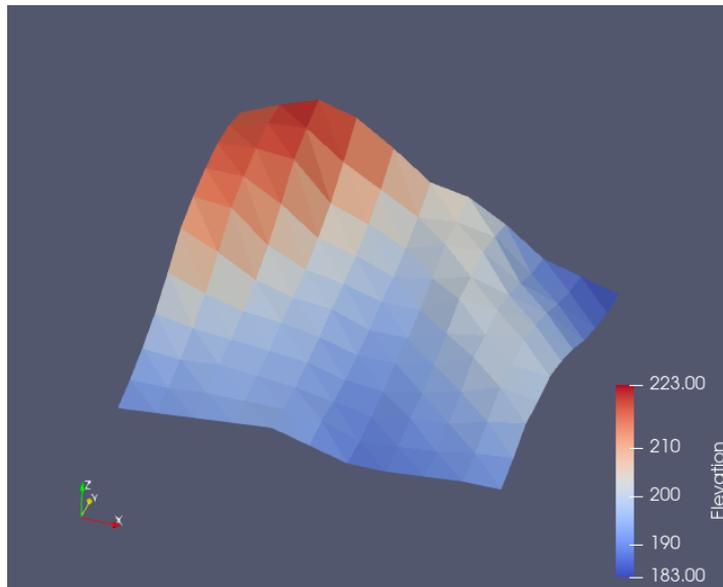

Fig. 2.33: Triangles are colored according to the **average elevation** of their adjoining points.
- **Cell attributes** will result in a **precise coloring** where each triangle receives the color that corresponds to its cell attribute, with hard edges, as shown in Fig. 2.33.
- **Point Data to Cell Data** does what the name is saying: It converts *point attributes* into *cell attributes*. It does so by averaging all available point attributes of those points that are part of a specific cell. A result of applying this to the **Elevations** attribute that was generated in the previous section looks like shown in Fig. 2.33.